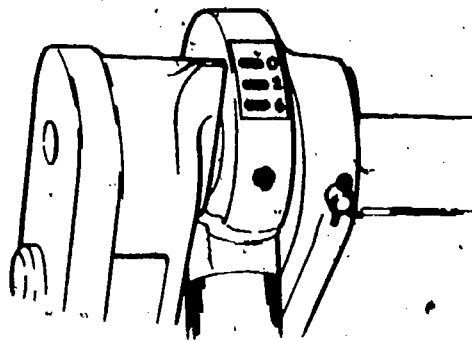

Fig 4-34. Clam-opening indicator.
- (2) **Scraper.** As a scraper, the loader is capable of stripping, to a carefully controlled depth, a layer of topsoil or other material from the ground. It may also be used for leveling rough ground in this position. Use the loader control lever to position the indicator rod at the scraper position. Also move the clam-opening lever to the right for the desired cut. The clam-opening indicator, on the right rear of the 4-in-1 (fig 34) indicates the exact cut that will be obtained. When moving forward, the moldboard cutting edge will enter the ground until the compaction plate makes contact, thus giving a cut to the depth indicated on the plate on the rear of the moldboard (fig 4-34).